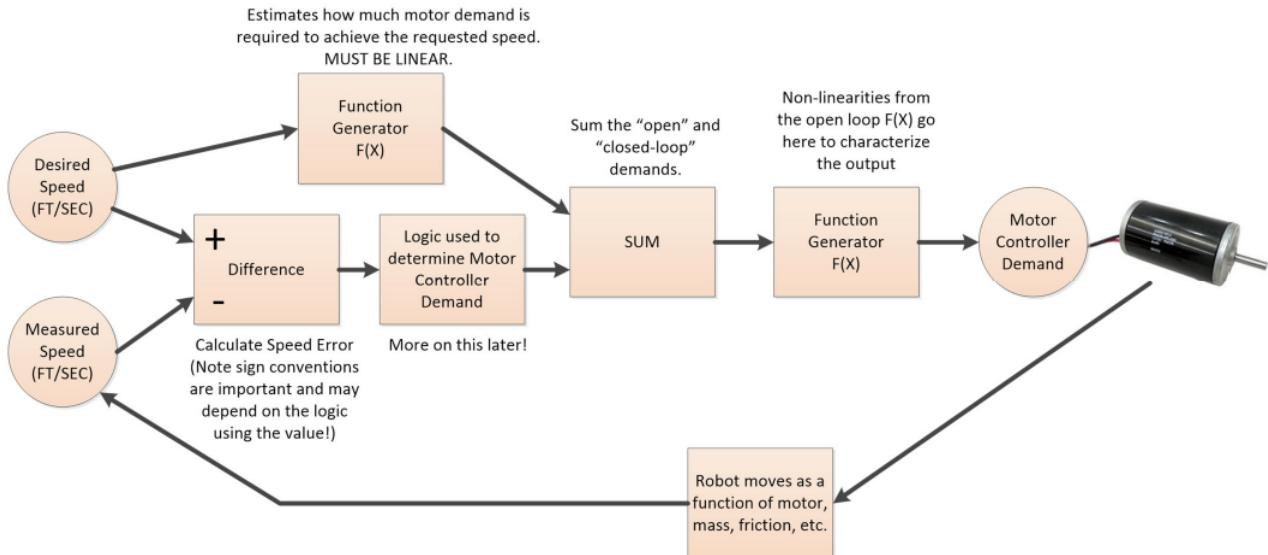

FIGURE 7.5 Block diagram of closed loop control with feedforward
The function diagram, Fig. 7.5, for closed loop control with feedforward shows that an output demand (CO) is calculated from the control error, calculated as setpoint (SP) minus process variable (PV) plus a function of the setpoint (SP). The equation for this is: